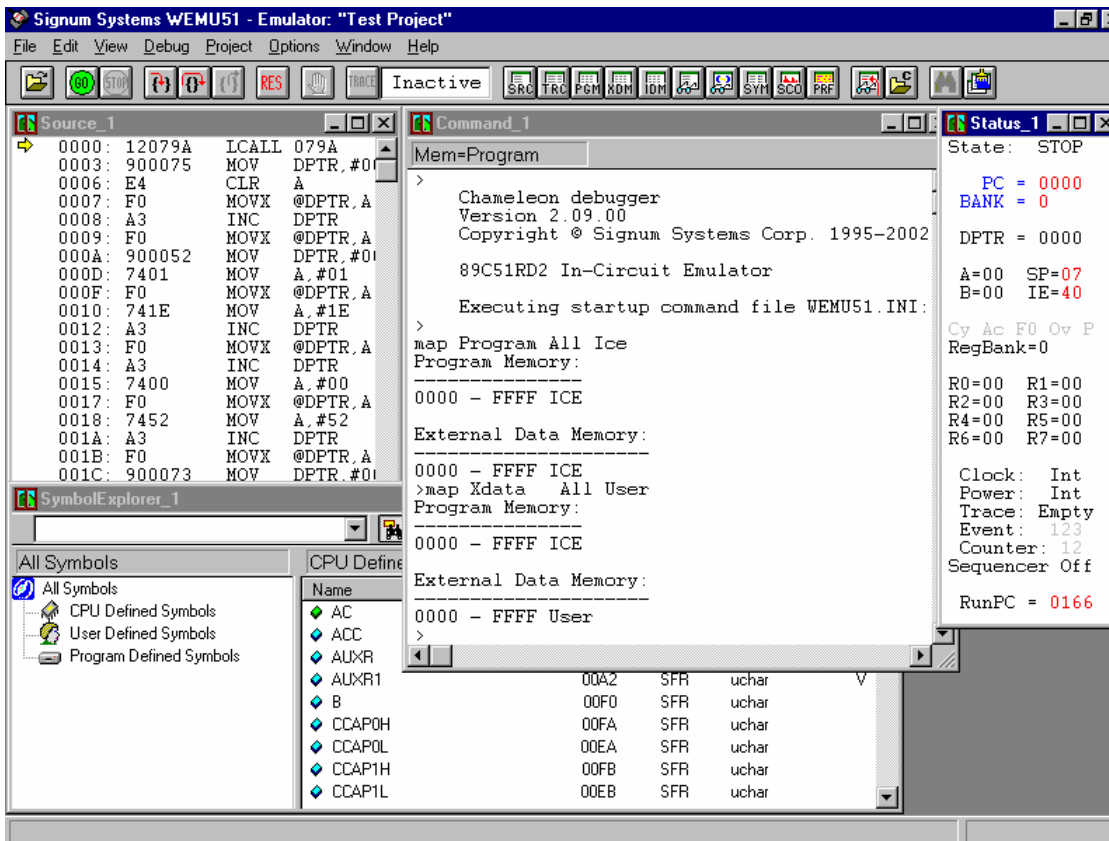

FIGURE 11 Typical project initial screen.
7. Upon opening the project, the debugger main window contains the Status, Source, Symbol Explorer and Command windows. Note the names of the selected target (*Emulator*) and project (*Test Project*) displayed on the debugger's title bar (Figure 11).